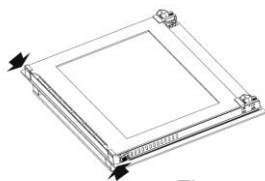

Fig. 10
1. Press the plastic latches located on both sides (right and left) of the profile as shown in Figure 10, then remove the profile by pulling it out as shown in